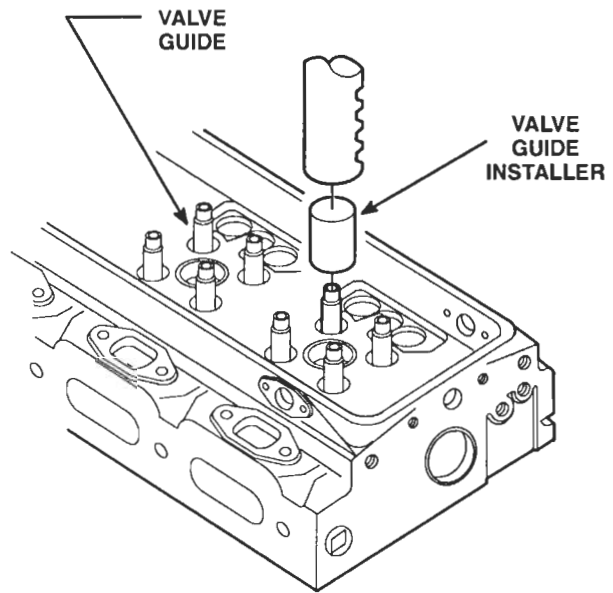

Figure 7. Installing Valve Guides
2. Position the valve guide squarely in the bore in the cylinder head and press the installing tool gently to start the guide in place (Figure 7.) Then, press the guide in until the tool contacts the cylinder head. Do not use the valve guides as a means of turning the cylinder head over or in handling the cylinder head.